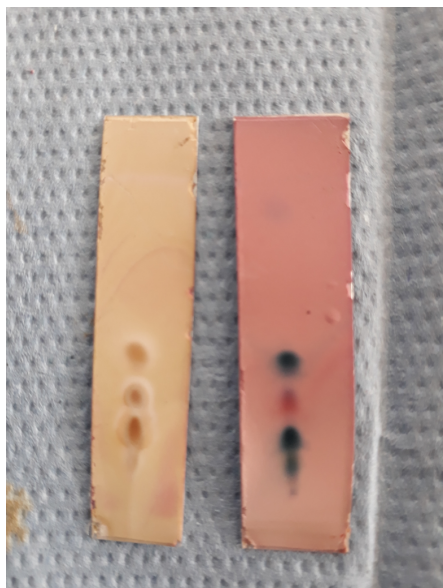

*Figure 1: Thin layer chromatography plates with orange oil (left) and limonene (right) stained with permanganate*
4. To stain the plates, dip the plate in the p-anisaldehyde or permanganate staining reagents. Using forceps, remove any drips on a paper towel and heat with a hot air gun. Stop heating when spots appear (figures 1 and 2).
5. To identify the spots, perform thin layer chromatography under the same conditions as for pure chemicals. You can then compare the chromatograms for the oil and for the chemical, for example comparing orange oil and limonene (figure 1), or spearmint oil and carvone. One drop of the chemical in about 1 ml of hexane will work before applying them to the plate.